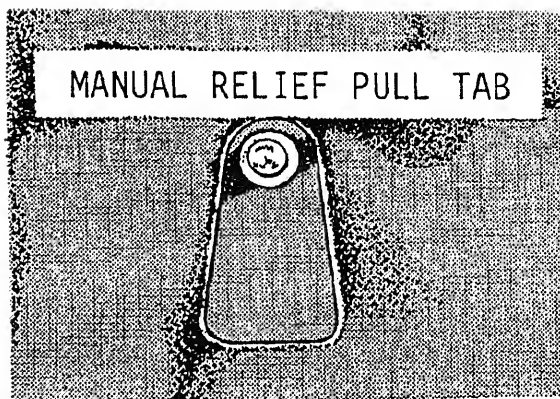

Figure 15-15.—Manual relief valve tab.
5. Breathe normally. The chemical reaction of the canister will generate more oxygen than is required. Any excess oxygen will be automatically vented by the relief valve in the bag when the bag reaches full capacity. A manual relief pull tab on the valve is provided should the valve stick closed over a long storage period. The manual relief pull tab is shown in figure 15-15.